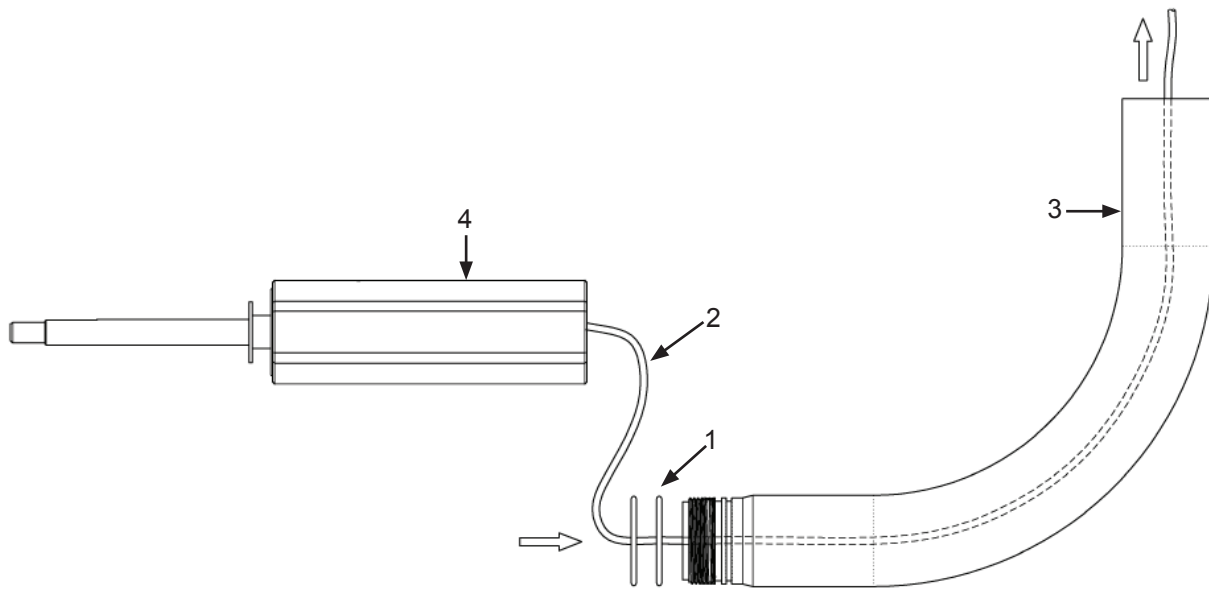

Figure 10 Reassemble Bearing
Step 5. Install new O-rings (1) and push the sensor cable (2) up through the ell (3). Install and tighten the bearing assembly (4). See Figure 10.